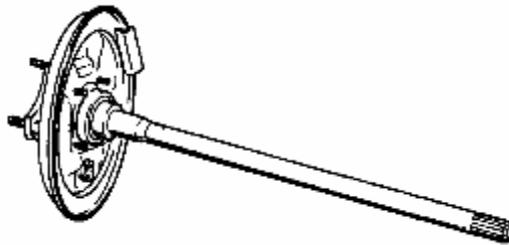

FIG 13-10
(1) Half-axle has more high strength. In general, it can not occur more serious problem. After removing, check for bend, crack and deformation mainly. If slightly bend found, revise with pressure machine until the bent is less than 0.8mm. If serious bend or crack found, replace half-axle or half-axle assembly(FIG.13-10)